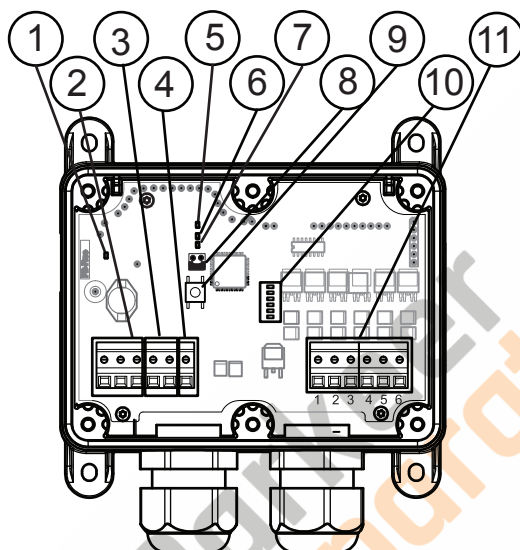
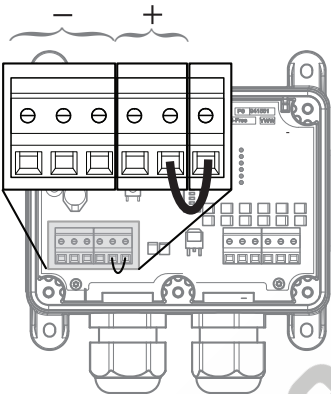

Figure 1. Sesam 800 RXM model indicators, connections and jumper
Figure 3. Configuring internal supply of output power
The Sesam 800 RXM model has LED indicators that indicate different parameters (see Figure 1 for positions of the LEDs).
Connect 12-24 V DC (+) to position 3 and ground (-) to position 2 (see ③ and ② in Figure 1).
Connect the equipment to be controlled to output terminals 1...6 (see ⑪ in Figure 1) and equipment ground to position 2 (see ② in Figure 1). If the outputs are to be powered by the same 12-24 V DC supply as the receiver place a jumper between the Output Power Input (SW) and Positive (+) 12-24 V DC using a 0,75 mm² cable (see Figure 3).
2. Push the “Learn/Erase” button until LED 7 (see Figure 1) is ON.
Caution. All outputs must be disabled before configuration by disconnecting the Output Power Input (SW) terminal (see Figure 3).
2. Disconnect the Output Power Input terminal, see figure 3.